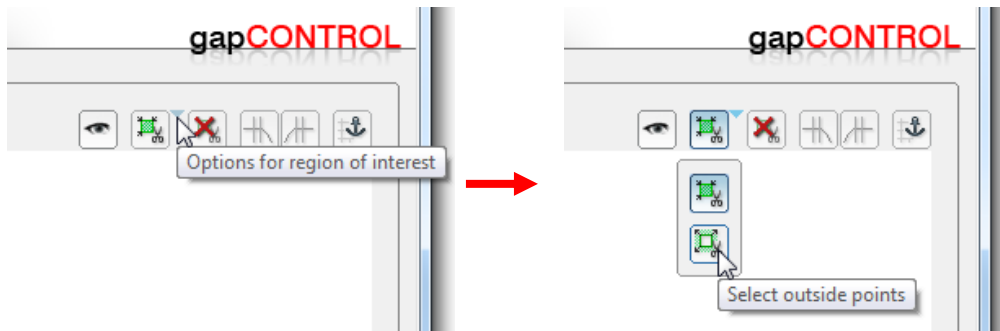

Fig. 3.27: "Options for region of interest" context menu (Select inside/outside points)
- ➡ Open the "Options for region of interest" context menu. To do this, press the corresponding button located right to the "Set region of interest" button (see Fig. 3.27)
- ➡ Use the context menu to select the desired mode (see Fig. 3.27)